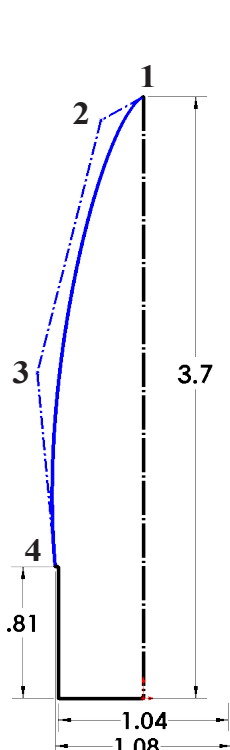

Fig. 5
Step 11. Sketch a **4 control vertex point Spline** between left endpoints of short horizontal line and top endpoint of vertical centerline, **Fig. 5**. Press Escape to end the spline.